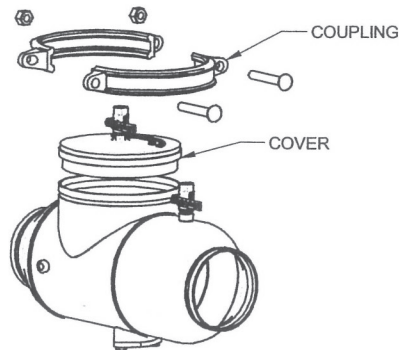
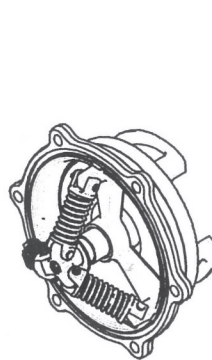

Figure 5
Figure 6
2. Lift off the cover. See Figure 5.
3. Remove the six (6) nuts for 8" valves / eight (8) nuts for 10" & 12" valves with a 3/4" socket and ratchet.
4. Slide the entire check module off the body studs and remove from body (see Figure 6).